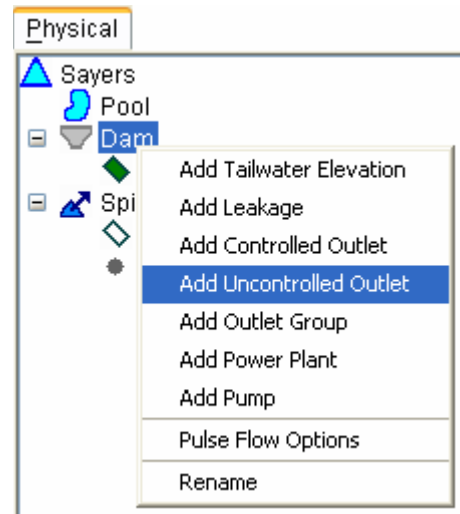

Figure 10.17 Dam Shortcut Menu: Add Uncontrolled Outlet
On the Physical tab, you may use either the component-specific menus in the Reservoir Editor's menu bar or the right-click shortcut menus (Figure 10.17) to add an Uncontrolled Outlet as a component of a Dam, Diverted Outlet, or Outlet Group.
2. Choose **Add Uncontrolled Outlet** from the shortcut menu (Figure 10.17) or from the component's menu in the Reservoir Editor's menu bar.